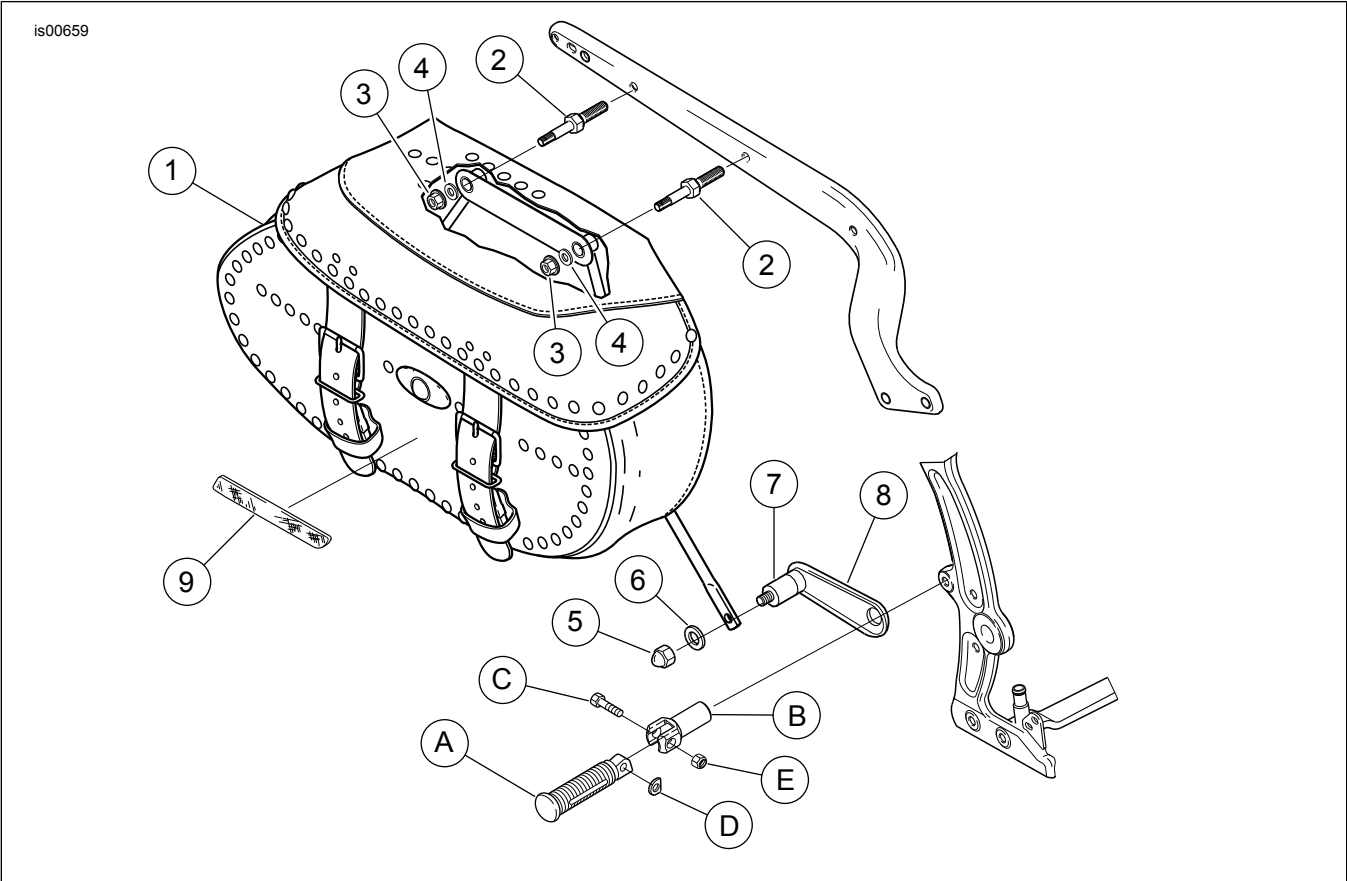

Figure 5. Service Parts: Saddlebag Mount Kit
See Figure 5 and Table 1.
10. See Figure 5. Install saddlebag (1) on mounting studs (2) with flange locking nuts (3) and washers (4). Tighten flange nuts to 120-144 in-lbs (13.6-16.3 Nm).
11. Install acorn nut (5) and washer (6) on rubber mount isolator (7) and saddlebag mounting bracket (8). Tighten acorn nut to 120-144 in-lbs (13.6-16.3 Nm).
12. Install passenger footpeg (A) on footpeg support (B) using hex bolt (C), spring washer (D), and locknut (E). Tighten locknut to 120-192 in-lbs (13.6-21.7 Nm).